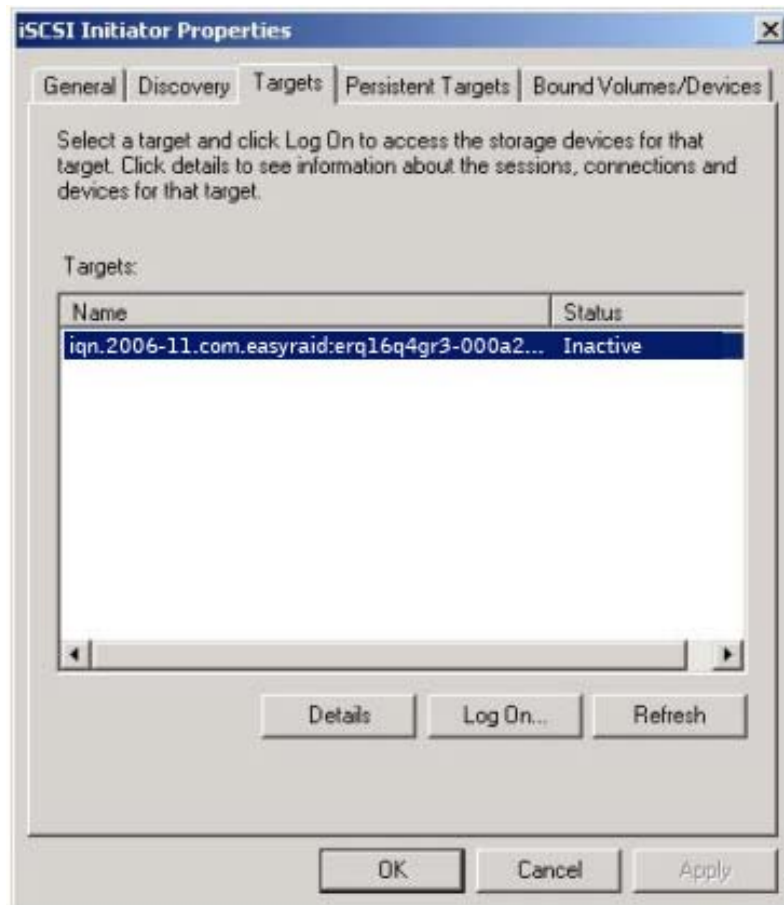

Figure D.7
8. Click “**OK**”. The status would be “Connected”. Please see Figure D.7.